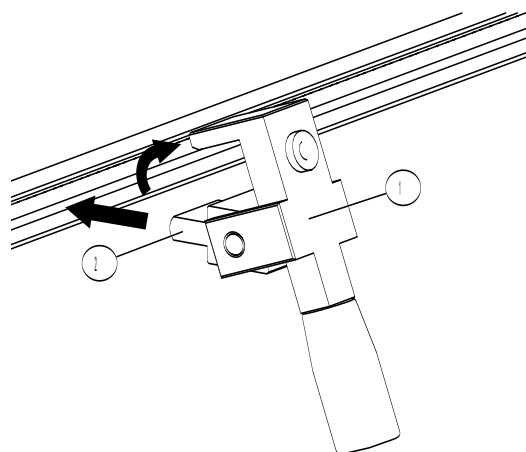
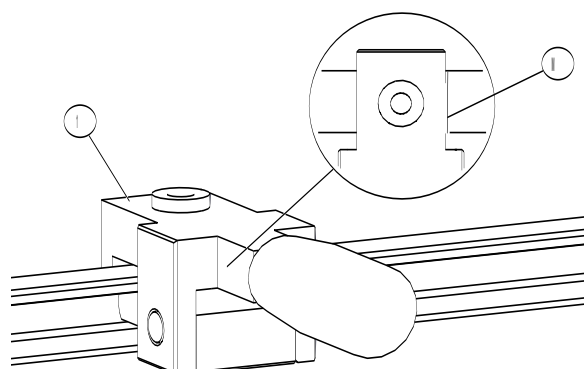

Fig. 69: Position drilling jig
Fig. 70: Lay the drilling jig on the marking
- Open the drilling jig (1) using the handle (see Fig. 69).
- Push the clamping unit (2) of the drilling jig into the conductor rail so that the drilling jig (1) is flush with the marking (M) (see Fig. 69 and Fig. 70).